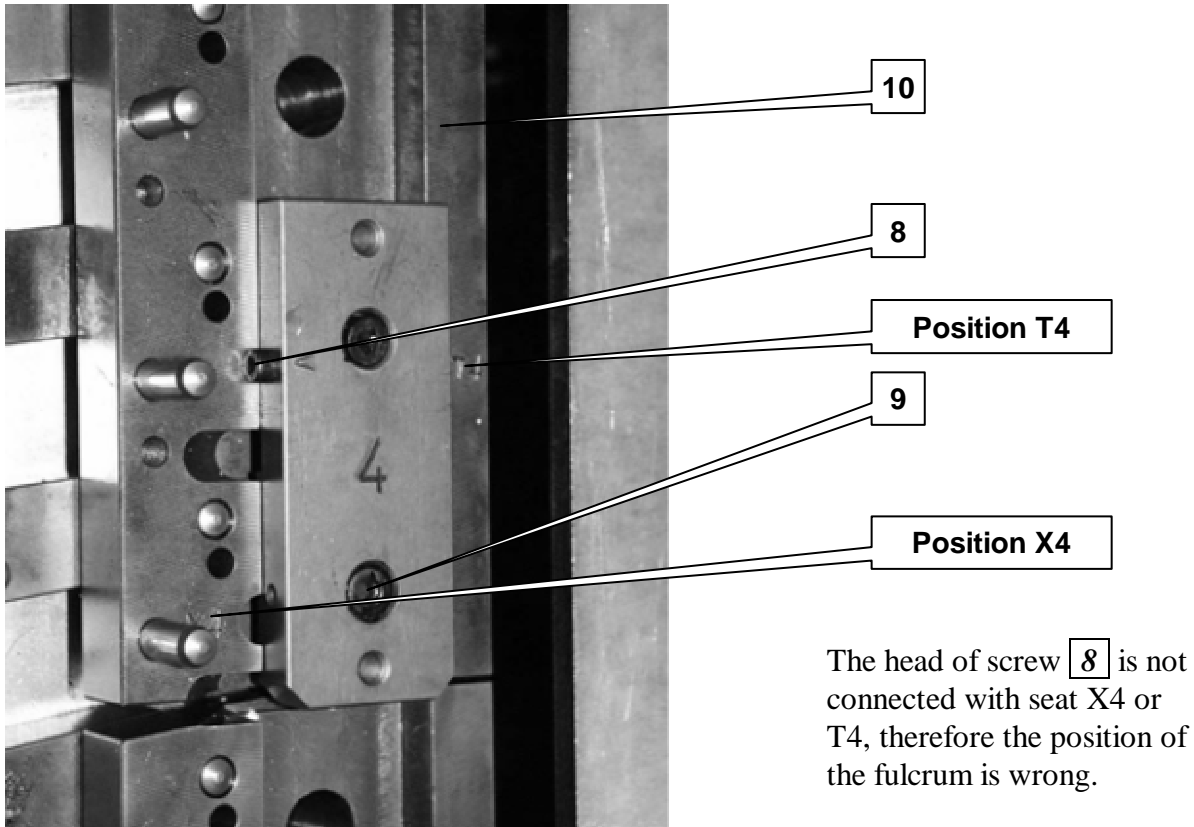

Fig. 4.57 – Example of fulcrum wrong positioning
- 5.2 Fulcrum N has to be positioned so that sign **8** (fig. 4.57) (screw head + V) means XN or TN (for example: 4 means X4 or T4, 5 means X5 or T5, 3 means X3 or T3). If sign doesn't find symbol (as shown in the photo) you need to try to insert fulcrum in the opposite arm ( in the case of fig. 4.57 you have to insert it in the left arm).
- 5.3 Check periodically the presence of the head of screws **8** and **9** (fig. 4.57); if they are missing, they must be immediately restored.
- 5.4 If fulcrum is in the right position, it turns out to be complete as regards its parts and fully inserted in its seat. It cannot lean out of the arm **10** (fig. 4.57).